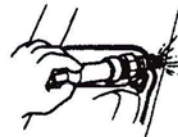

Fig . 56
10.1.4 Remove the spark plug, check if there is spark jumping out. (Figure 56)